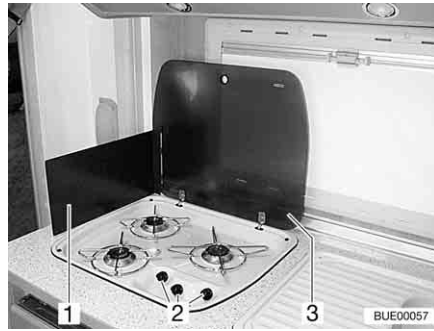

Fig. 163 Gas cooker
A heat guard (Fig. 163,1) protects the furniture near the gas cooker.
- Open the gas cooker lid (Fig. 163,3).
- Turn the control knob (Fig. 163,2) on the burner you wish to use to the ignition position (large flame).